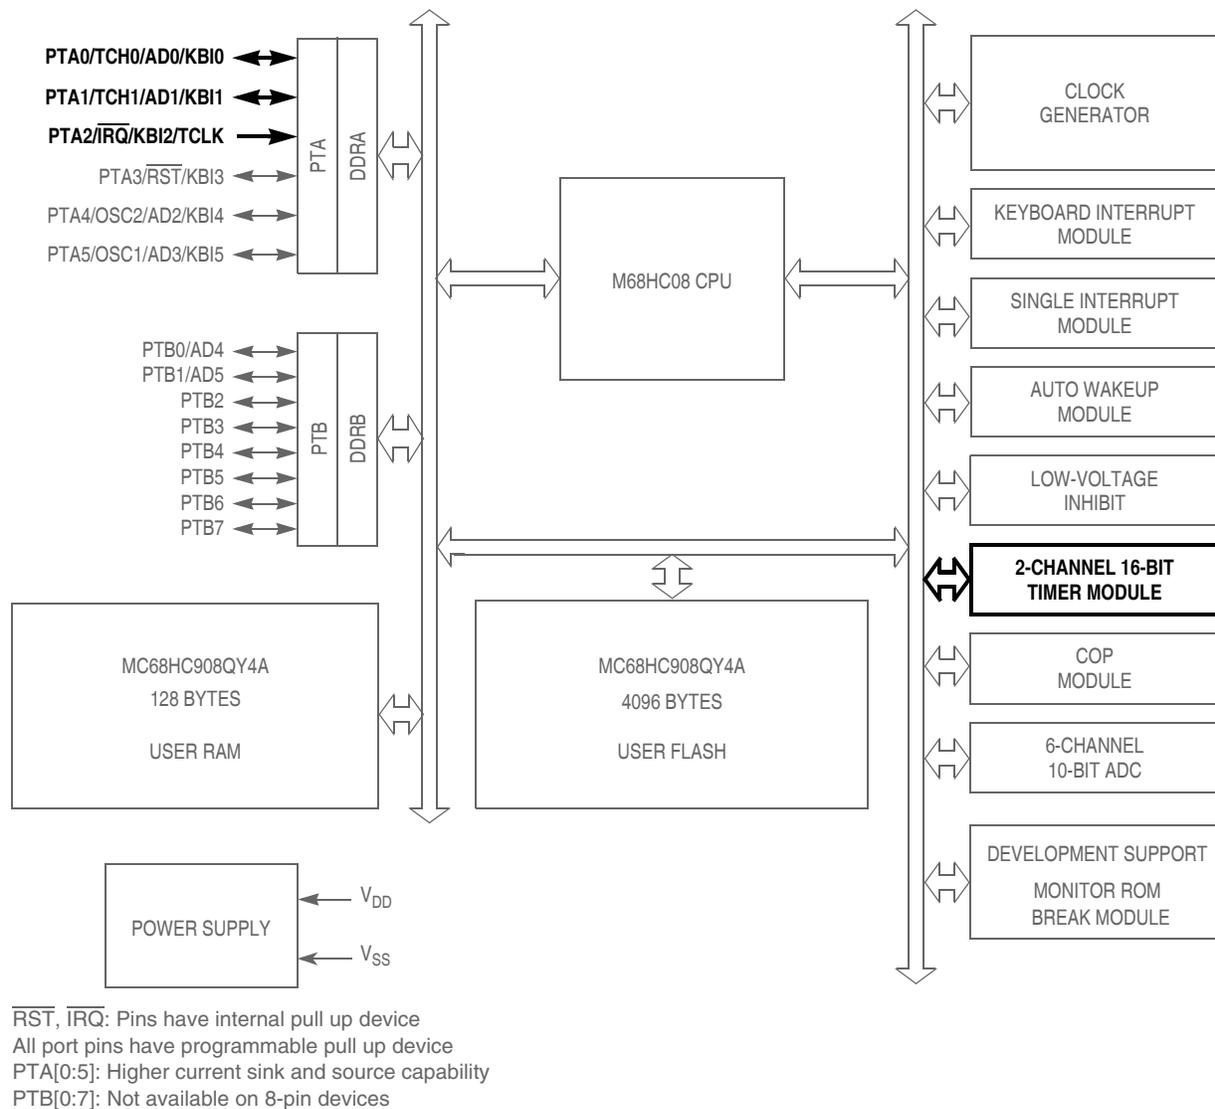

Figure 14-1. Block Diagram Highlighting TIM Block and Pins
The TIM module shares its pins with general-purpose input/output (I/O) port pins. See Figure 14-1 for port location of these shared pins.
- External clock input pin if available, See Figure 14-1
The TIM module can share its pins with the general-purpose I/O pins. See Figure 14-1 for the port pins that are shared.